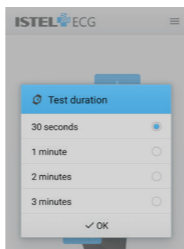

Fig. 19
- **Time of measurement.** The time for which the Istel HR-2000 ECG Recorder will monitor the patient's ECG signal must be set (see Fig. 19).